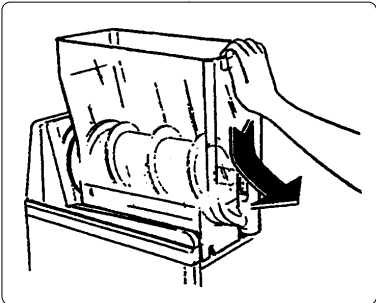

Fig. 11
b) Pull the tank outwards, as shown, to completely remove it from its lodging (see fig. 11). Thoroughly wash the tank, but do not use abrasive detergents or powders that can damage the finishes.